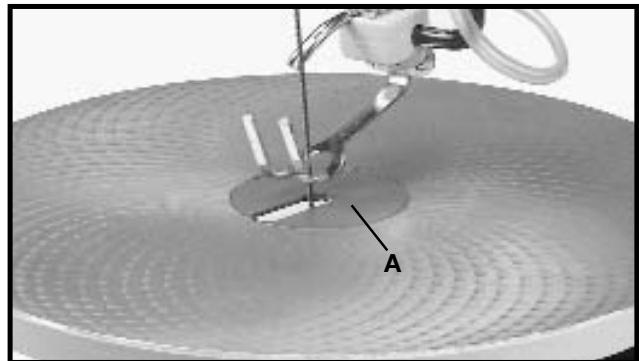
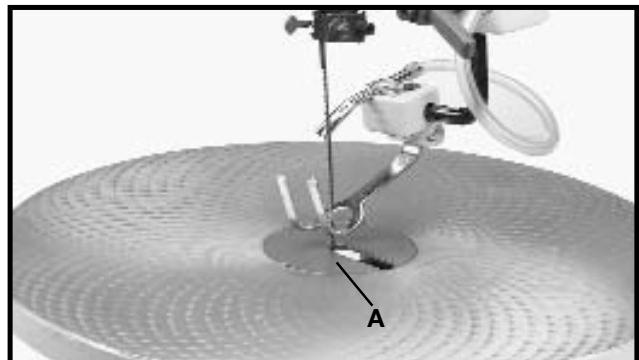

Fig. 19
Fig. 20
The table insert (A) can be assembled to the saw table with the opening in the insert pointing to the front of the table, as shown in Fig. 19, or to the right as shown in Fig. 20.
With the table in the level position, 90 degrees to the blade, the insert should be positioned, as shown in Fig. 19. This allows for the blade to be pivoted forward after it is unclasped from the top blade holder, enabling you to quickly insert the blade into the next hole in a pattern when doing inside-cutting.
When tilting the table for bevel cutting operations the insert (A) should be positioned as shown in Fig. 20. This allows for clearance of the blade when the table is tilting.